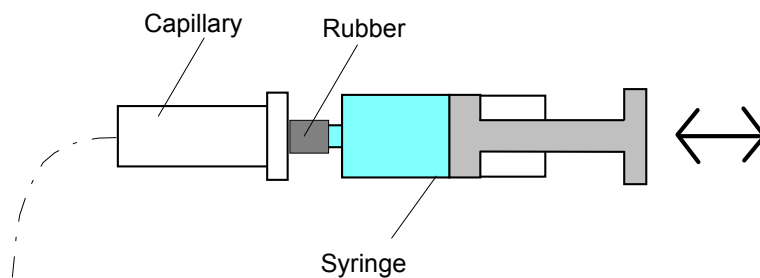

Fig 48: Cleaning the capillary manually
- Use a (10 ml) syringe filled up with MEDICLEAN^E and connect it tightly with the top aperture of the aperture tube by means of a tube (rubber), see Fig 48.